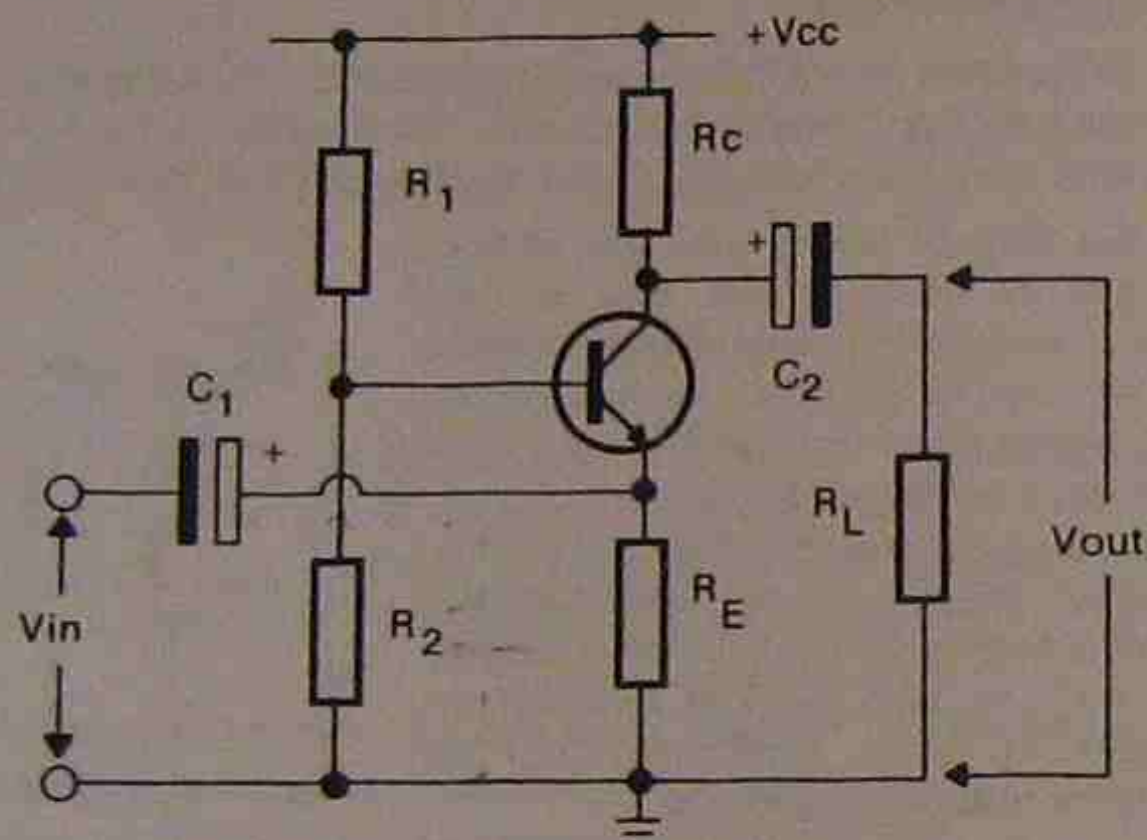

Fig.4: The common base amplifier
The third configuration for a transistor amplifier is the common base (CB) connection, as shown in Fig.4. This amplifier has the input signal applied to the emitter and the output is taken from the collector. The base terminal is connected to bias resistors, and a capacitor is often connected across  $R_2$  to ensure the base has no AC signal present. Thus, the base is regarded as being connected to the common line as far as AC signals are concerned. The input impedance of the CB amplifier is low, and the output impedance equals the collector resistor  $R_C$ . Unlike the CC amplifier, the CB configuration has voltage gain, but no current gain.